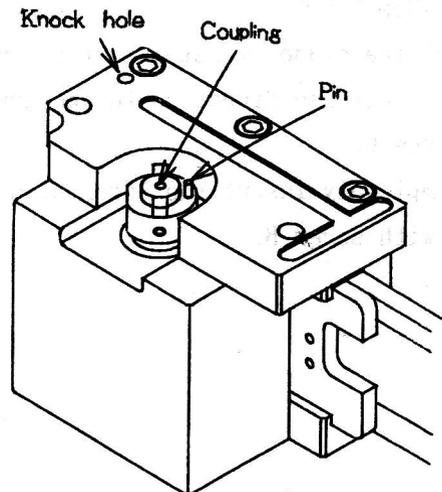

Fig. 7
-Mount the blade block while adjusting the concave and convex of the coupling, the pins, knock pin and knock hole to fit exactly, and fasten screw A as shown in Fig. 2. (See Fig.7)